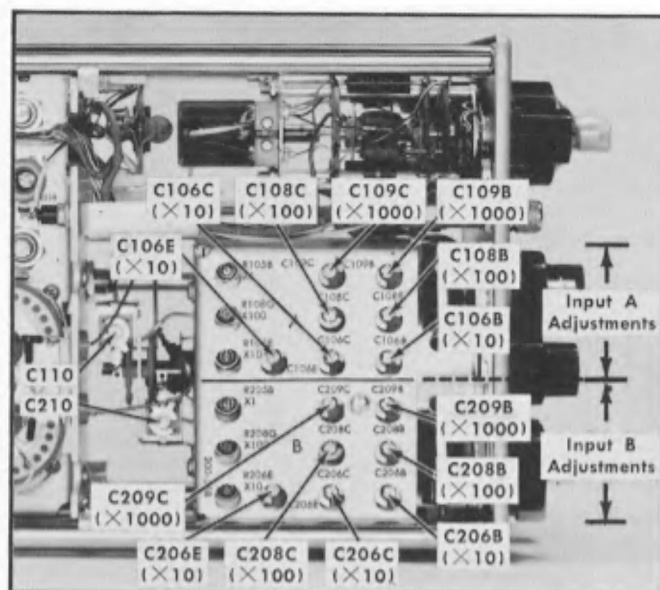
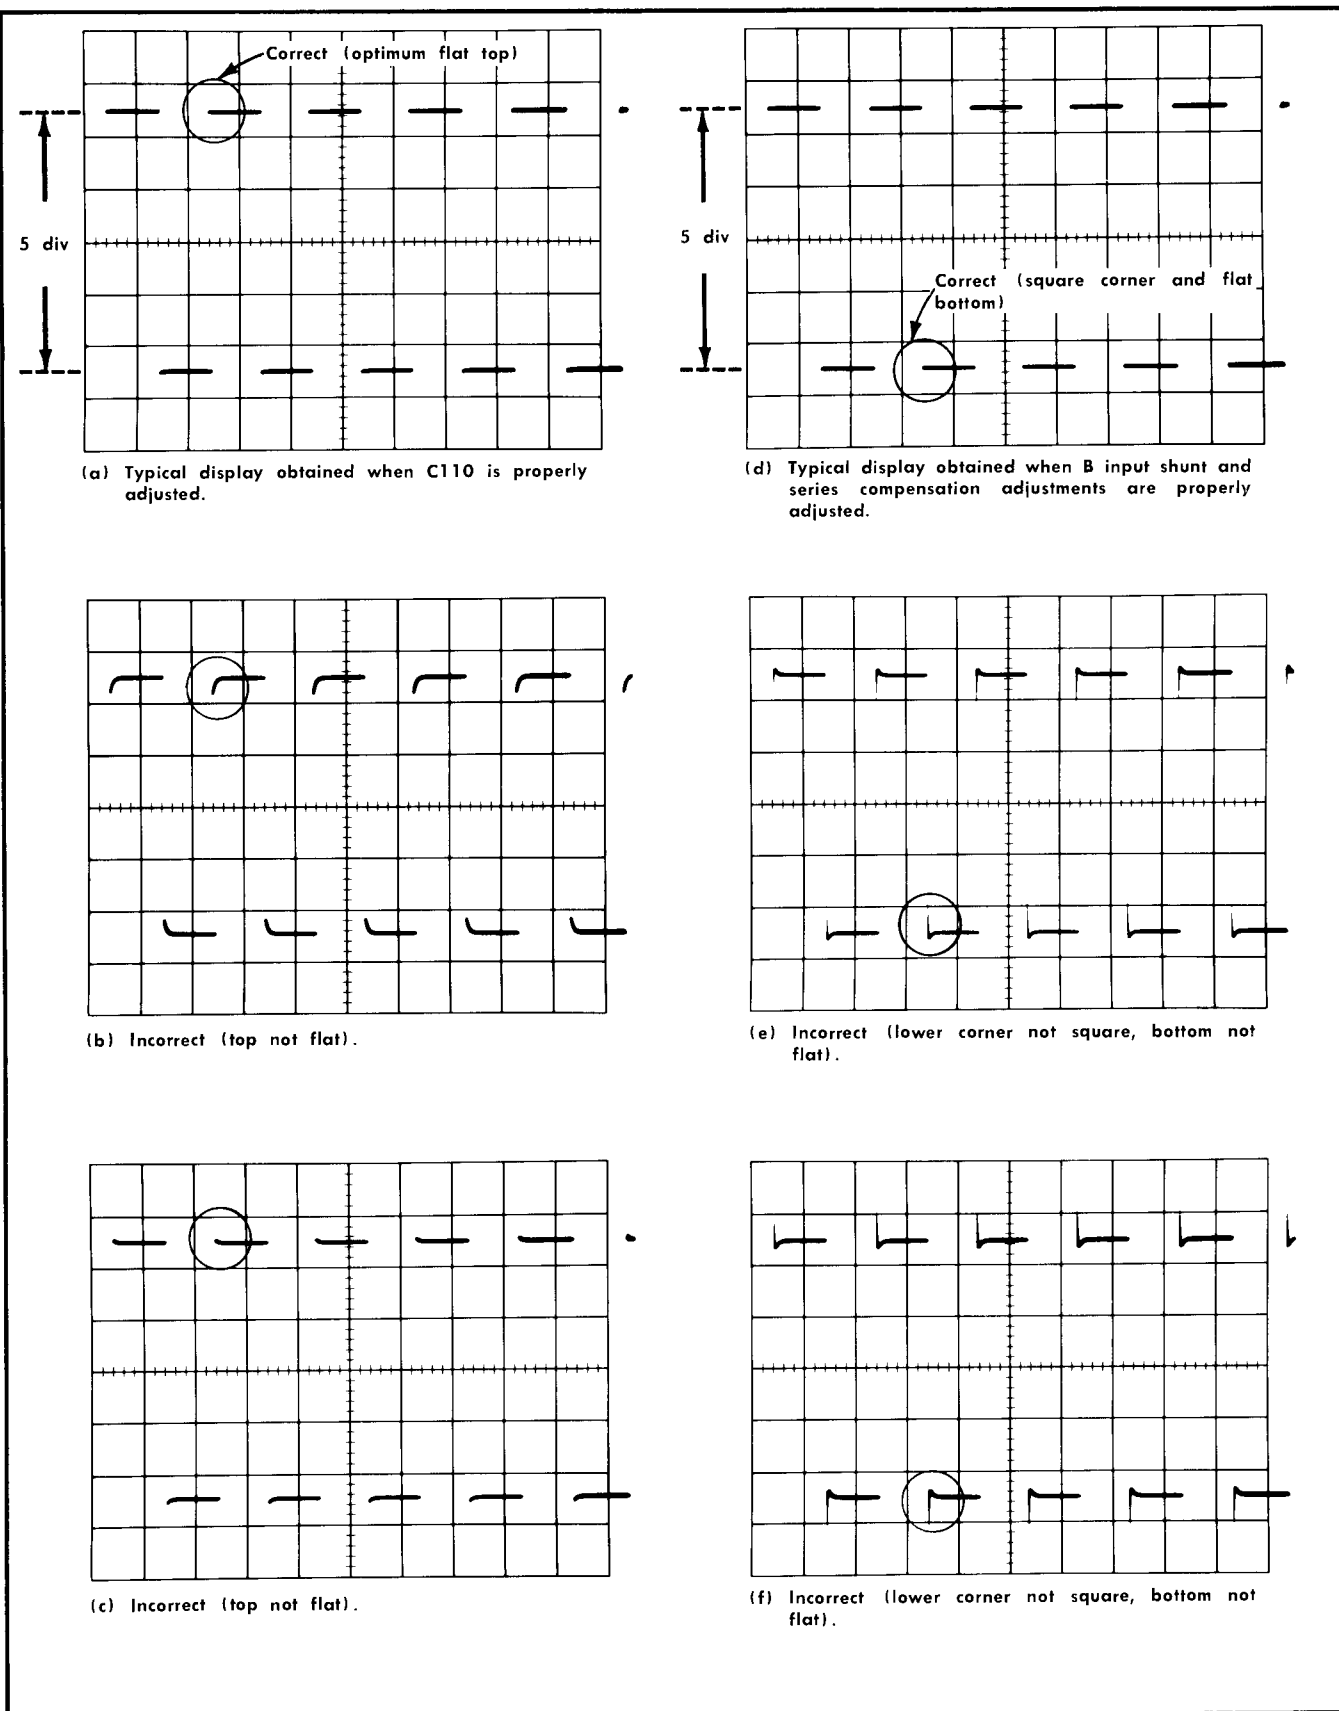

Fig. 5-41. Location of step 34 adjustments.
Fig. 5-42. Typical waveforms obtained when compensating the attenuators.
d. Using Table 5-5 as a guide, start with adjustment C110 [see Fig. 5-41]. Fig. 5-42a shows the correct display
¹For input A, adjust waveform for best upper front corner and flat top. For input B, the waveform is inverted so adjust for best lower front corner and flat bottom. See Fig. 5-41 for adjustment locations and Fig. 5-42 for typical waveforms.